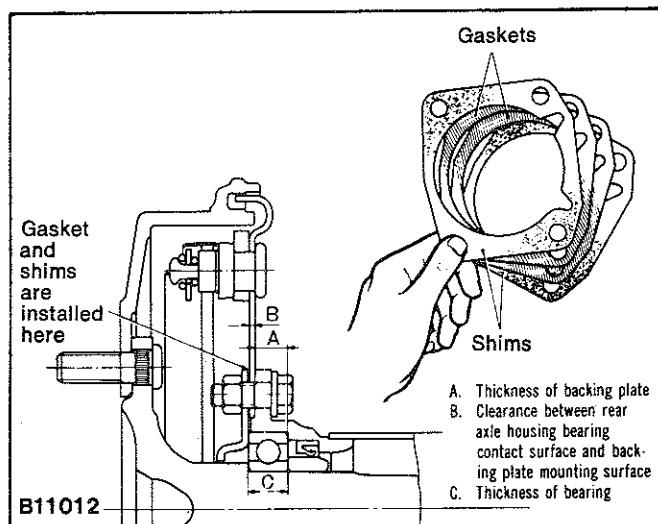

Fig. 5—Determining bearing to outer bearing retainer clearance
(1) Clean the section of the rear axle housing where the oil seal is positioned and lightly smear it with grease.
(2) Install the axle shaft oil seal into the axle housing ensuring that it is correctly seated.
(3) Lightly smear the oil seal lip and axle shaft oil seal contact area with grease.
(4) Install the axle shaft and measure the bearing to outer bearing retainer clearance as shown in Fig. 5. From the result of adding dimensions A and B and subtracting them from dimension C i.e.  $C - (A + B)$ , the number